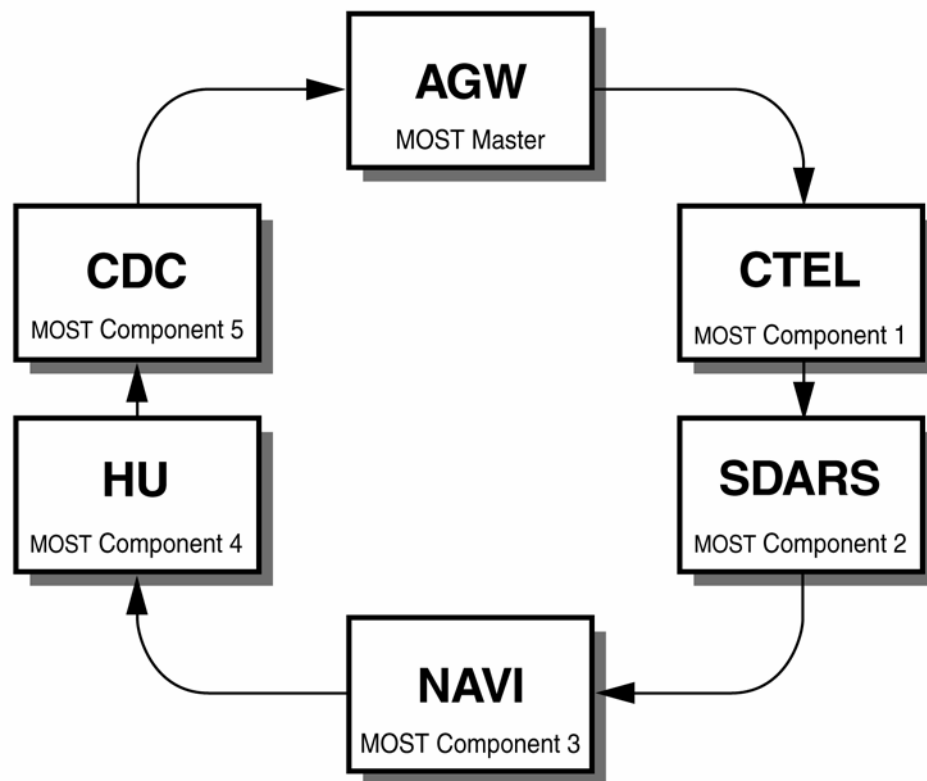

Figure 30
2. Set the MOST ring configuration to match Figure 30 via path:
**Control units > Information and communication > Audio, video, navigation and telematics > AGW – Audio Gateway > Retrofitting of MOST components or iPod > Retrofitting of MOST components > F2: Restart of optical ring > F2: Actual configuration > Verify that the configuration of the MOST components matches Figure 30 > F2: To continue > F3: Yes, to write the current actual configuration to MOST master > F2: Erase fault memory**
**Note:** The MOST ring configuration in Figure 30 is an example of a configuration including all components. Some installations will not include all the components shown in the example. If a component is not present, connect the preceding component to the component following the one not present.
**Match the MOST ring configuration to Figure 30.**
**Failure to match the MOST ring configuration to Figure 30 will result in erroneous system operation and/or intermittent malfunctioning of some or all components.**
**DO NOT alter the configuration in Figure 30 to match the vehicle configuration.**